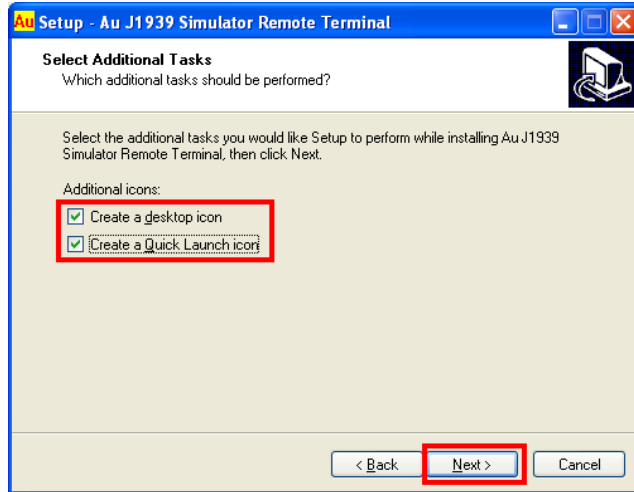

Figure A-7
7. “Select Additional Tasks” window pop up, check both “Create a desktop icon, and Create a Quick Launch icon”, click “Next” to continue (figure A-7)